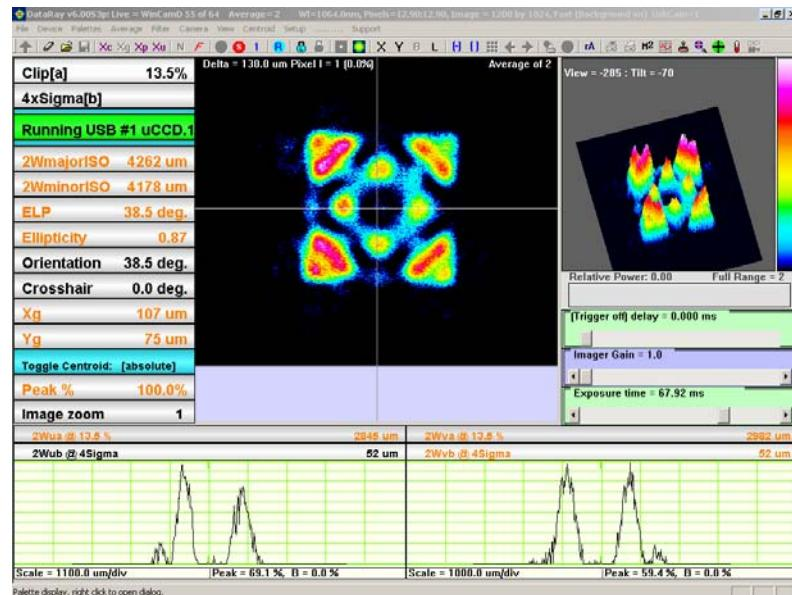

Figure 6.50 Measurement "B" before adjustment
22. Open the shutter and check the projection of the laser in the WinCam (see figure 6.50).